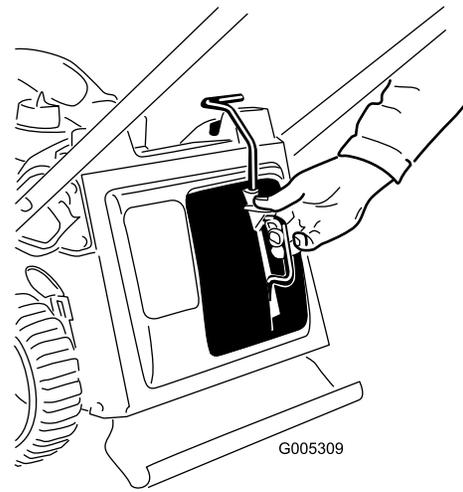
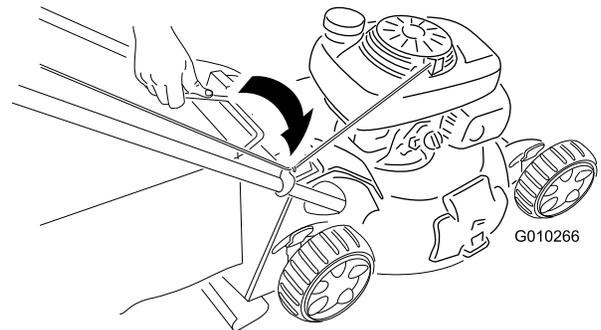

Figure 19
Figure 20
1. Install the mulch plug (Figure 19) or the grass bag (Figure 20) on the machine.